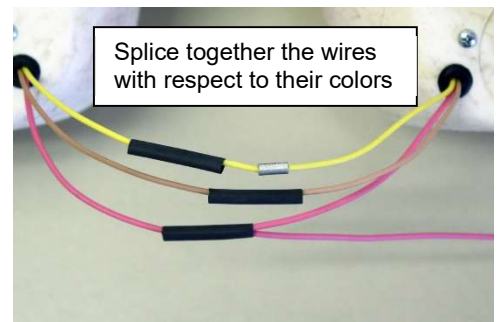

Figure 5
- 4.6.1. For the three housings making up a taillight assembly, bring each of the three matching color wire together for splicing with moderate slack. Cut off any excess wire length and strip off ¼" insulation off each wire. Slide a piece of heat shrink tubing over all wires on one side of the splice. Using the butt splices provided, insert the one color wire into each side and crimp the wires together. Then slide the heat shrink tubing over splice and shrink into place with a heat gun or other suitable heat source. (See Figure 5) Perform this operation for both left and right housings.